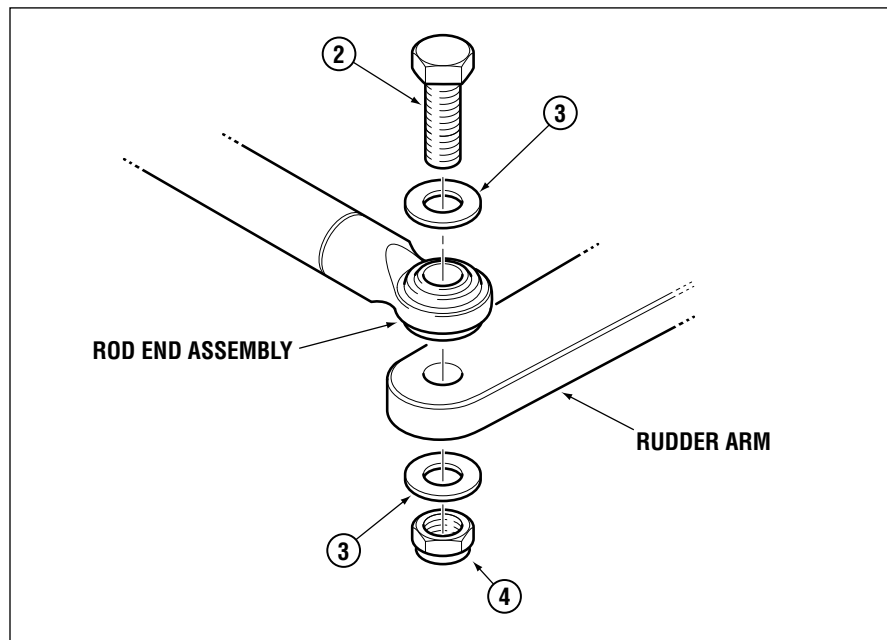

Figure 9. Attaching Rod End Assembly to Rudder Arm.
3. Assemble 1/2" x 2-1/4" bolt (item 2) and washers (items 3) into rod end assembly and rudder arm, as shown in Figure 9.
4. Torque nuts (item 4, Figure 9) to 43 ft-lb (58.3Nm).